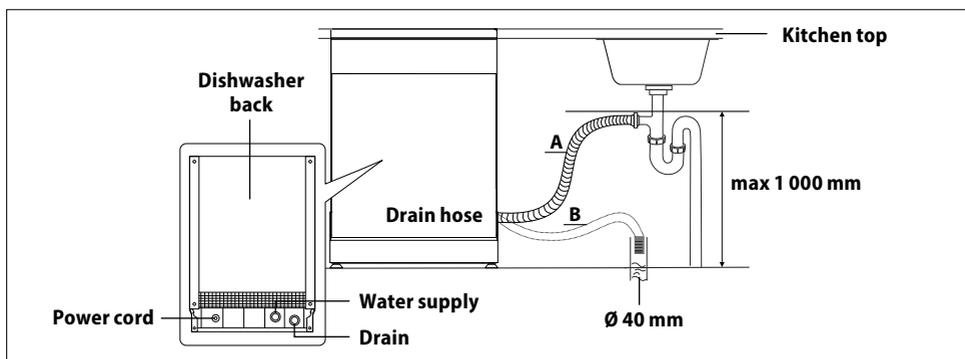

Fig. 18
5. Connect the drain hose according to Fig. 18.
- Connect the inlet hose to the tap with 3/4" thread (Fig. 18). Make sure that the inlet hose is not bent, crushed or entangled.
Connect the drain hose to the waste pipe with a minimum diameter: 40 mm (Fig. 18). Make sure the drain hose is not bent or squeezed to prevent slowing down or stopping of the water flow
The height of the waste pipe must be less than 1,000 mm (Fig. 18) and the drain hose should not be submerged in water. Secure the drain hose properly to prevent unwanted loosening from the waste pipe.